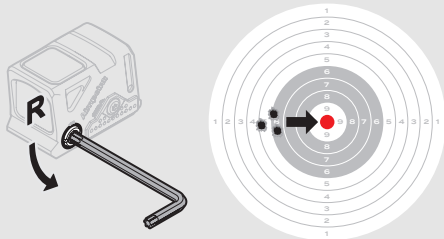
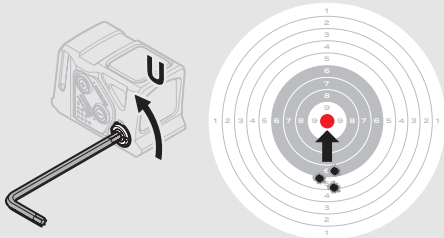

Fig. 4 Windage adjustments
Fig. 5 Elevation adjustments
- d** Use the long end of the Torx T10 tool (7) to turn the adjustment screws.
- e** Windage adjustments (see Fig. 4):
- Turn windage adjustment screw (3) counterclockwise to move point of impact to the right (R).
- Turn windage screw (3) clockwise to move point of impact to the left.
- f** Elevation adjustments (see Fig. 5):
- Turn elevation adjustment screw (2) counterclockwise to move point of impact up (U).
- Turn elevation adjustment screw (2) clockwise to move point of impact down.